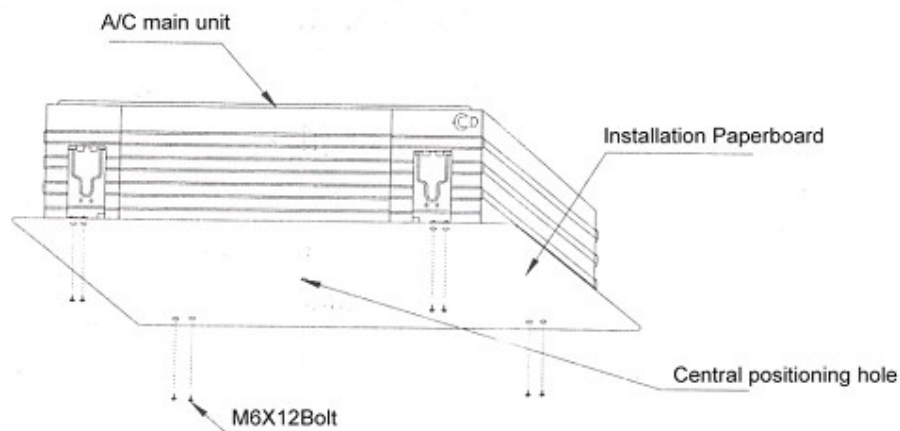

Fig 7
(1) Carry out installation following the step of A (2) aforesaid. You can buried some hooks in new room, which can bear the weight of the unit and not loose for concrete shrinking;
(2) After hoisting the main unit, fix the installation paperboard onto the main unit with M6  $\times$ 12 bolts (accessories), which will determine the size and position of the ceiling opening (See Fig 7)
- The rest procedure is as the steps of A(1) aforesaid;
- (3) Install as the steps of A(3) aforesaid
- (4) Remove the installation paperboard